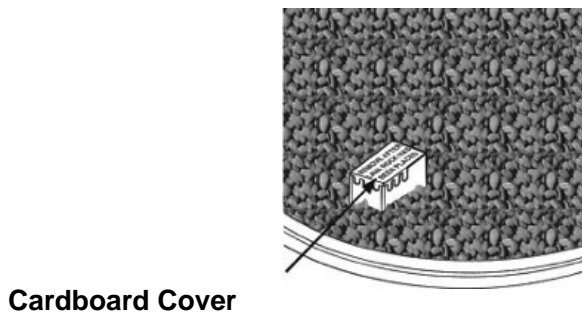

Figure 12
12. Remove the cardboard cover from the ignition well as shown in Figure 12. Remove any lava rock or fire ice on top of ignition well.